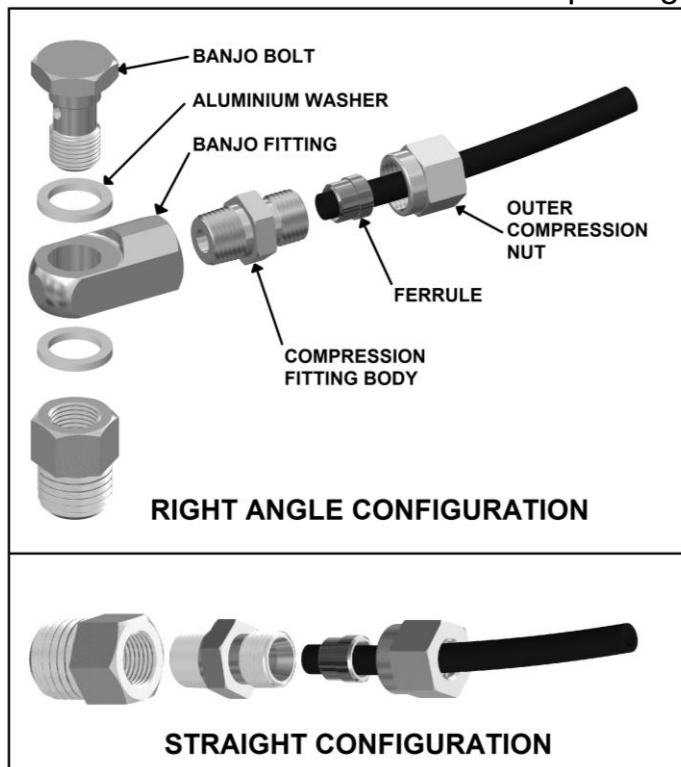

Figure 20.
- ☐ Assemble an aluminium washer onto the banjo bolt and insert through the banjo fitting. Assemble second aluminium washer and tighten into bulkhead fitting using a 14mm [9/16"] spanner. (Fig.20.)
- ☐ Insert the outer compression nut and ferrule over the air line. Ferrule should be orientated as per Fig.20.
NOTE : When right angle routing of the tube is not required, screw the compression fitting body straight into the bulkhead fitting body (Fig.20.).